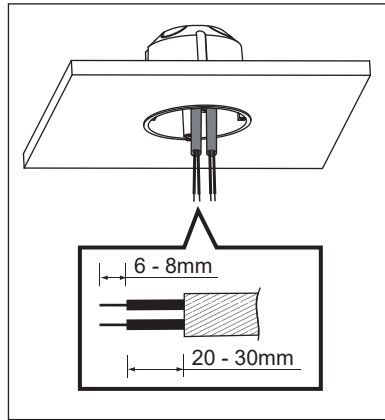
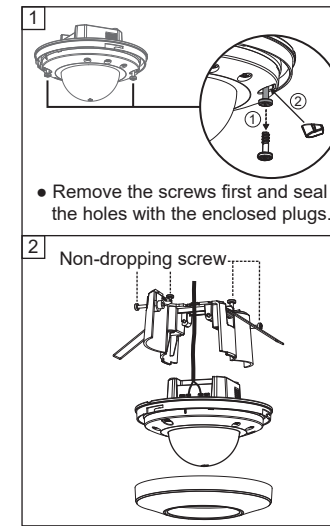
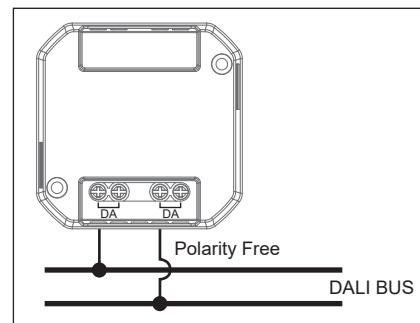

FIG.1
FIG.4
FIG. 12
2. Pull out power cables from European standard junction box, then strip off 6 - 8mm of cable sheathing for wiring (See FIG.1). Refer to wiring diagrams for correct wiring connection (See FIG.12~13).
2. Please refer to illustration of FIG.4 for correct installation, and fix the flush mount spring clips to the detector with 2pcs non-dropping screws (See FIG.4).
3. Refer to wiring diagrams for correct wiring connection (See FIG.12~13), and then tighten the flush mount spring clips with 2pcs non-dropping screws (See FIG.4).
4. Refer to wiring diagrams for correct wiring connection (See FIG.12~13) and fix the detector into surface mount box with 2pcs non-dropping screws (See FIG.10).